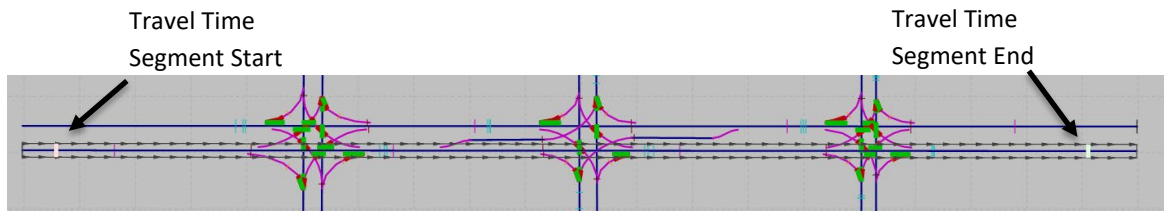

Figure 33: Buzz Blvd. EB, end-to-end travel time segment
- step ii. Left-click on the desired link of the starting position. We will put a travel time segment on the mainline EB link (see Figure 33).